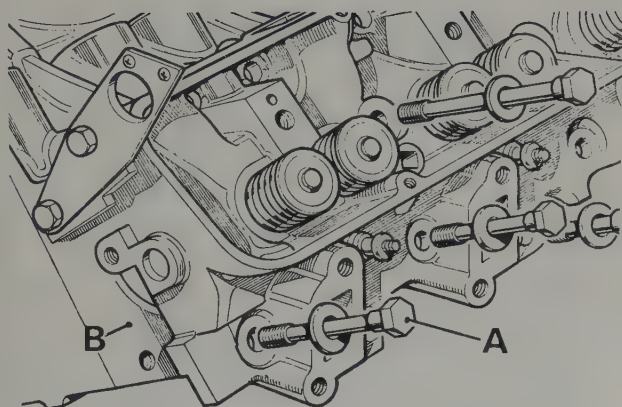

Fig. 1.19. Cylinder head bolt (A) and cylinder head (B)
- 6 Slacken the cylinder head bolts progressively and evenly (Fig. 1.19).